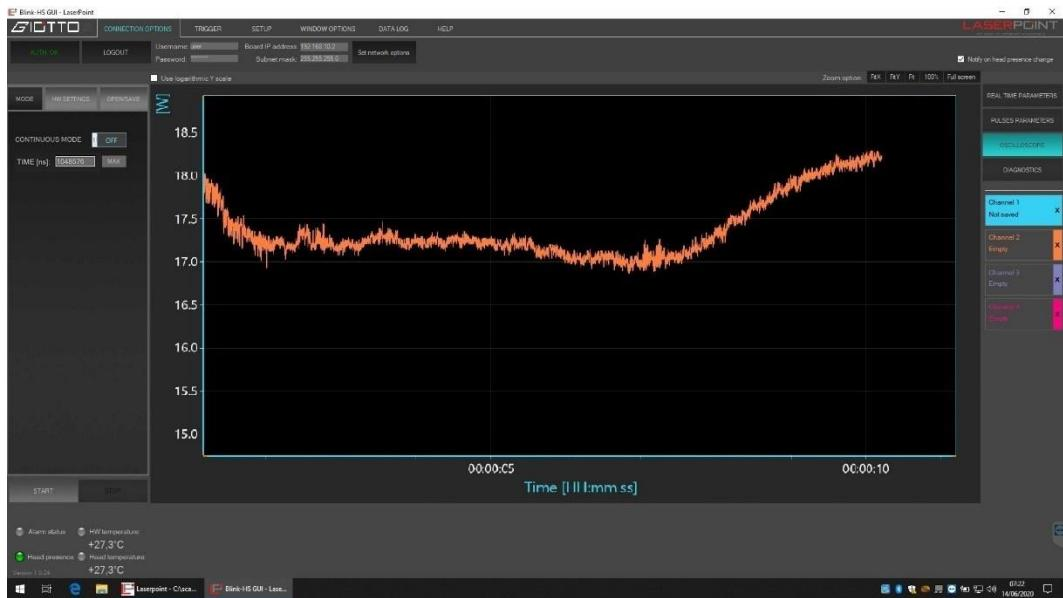

Figure 42
4. Time evolution of average Power of CO2 nm laser (**fig.42**)